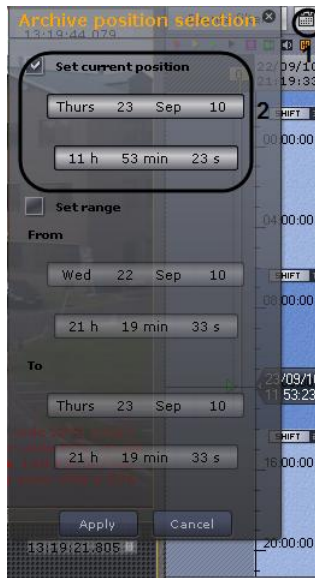

Fig. 7.1—17 Setting the timeline indicator in the desired position
1. Click the  button (Fig. 7.1—17, 1). The **Archive position selection** window will then appear (Fig. 7.1—17).
2. In this window, select the **Set current position** check box (see Fig. 7.1—17, 2). The time parameters in the **Set current position** group, which determine the position of the timeline indicator, will become available for editing.